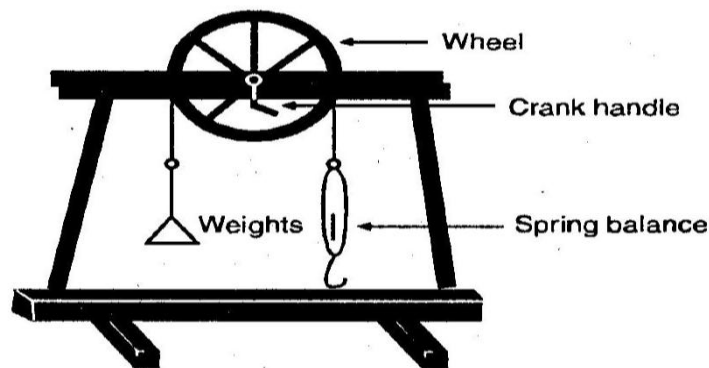

Fig 9.1. Personal Horse Power Apparatus
2. Pass the rope on the wheel. Attach spring balance to one end of the rope and load 'W' to the other end of the rope as shown in fig. 9.1.